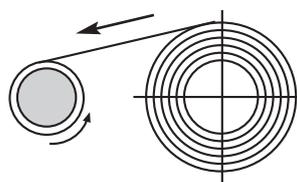

Figure 4
3. To assemble the spring, wind the outer winding around the spindle to become the smaller protected winding (Fig. 4) and continue until the whole spring is around the spindle.